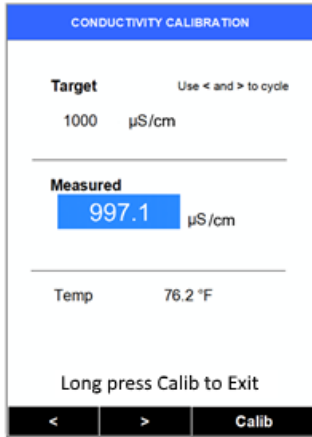

Figure 19
9. After about one second, if the PTSA calibration is successful, the PTSA value is also displayed in the measured section below the conductivity value, and a checkmark appears. A small variance is acceptable. The message “Calibration Succeed” appears in red, as in Figure 19.